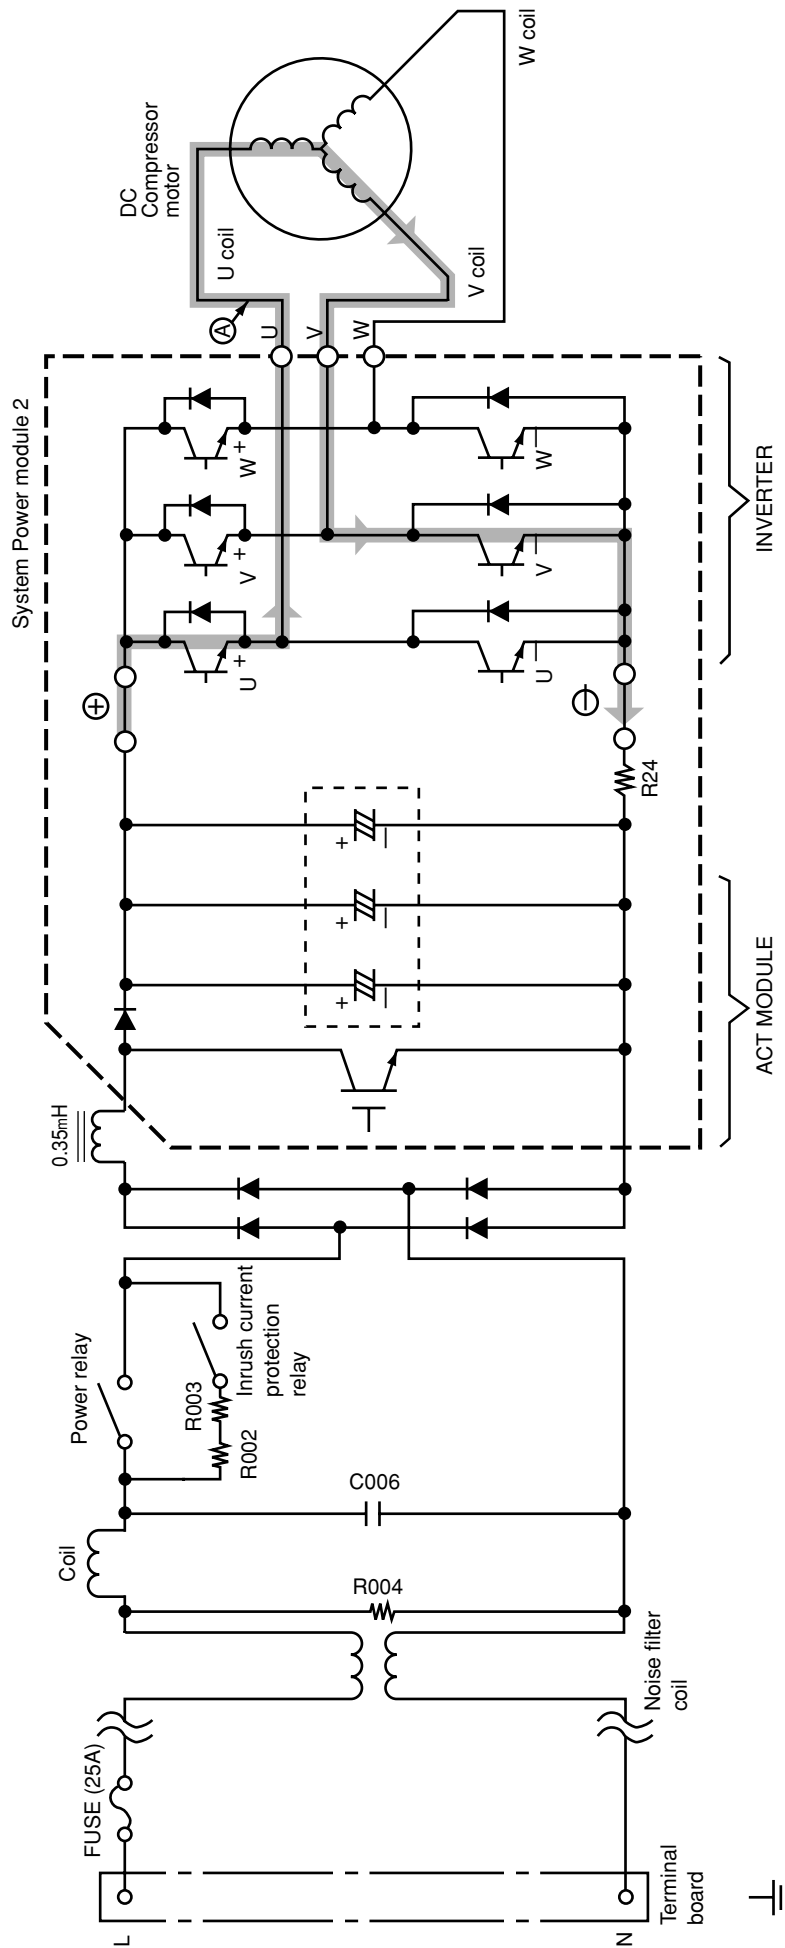
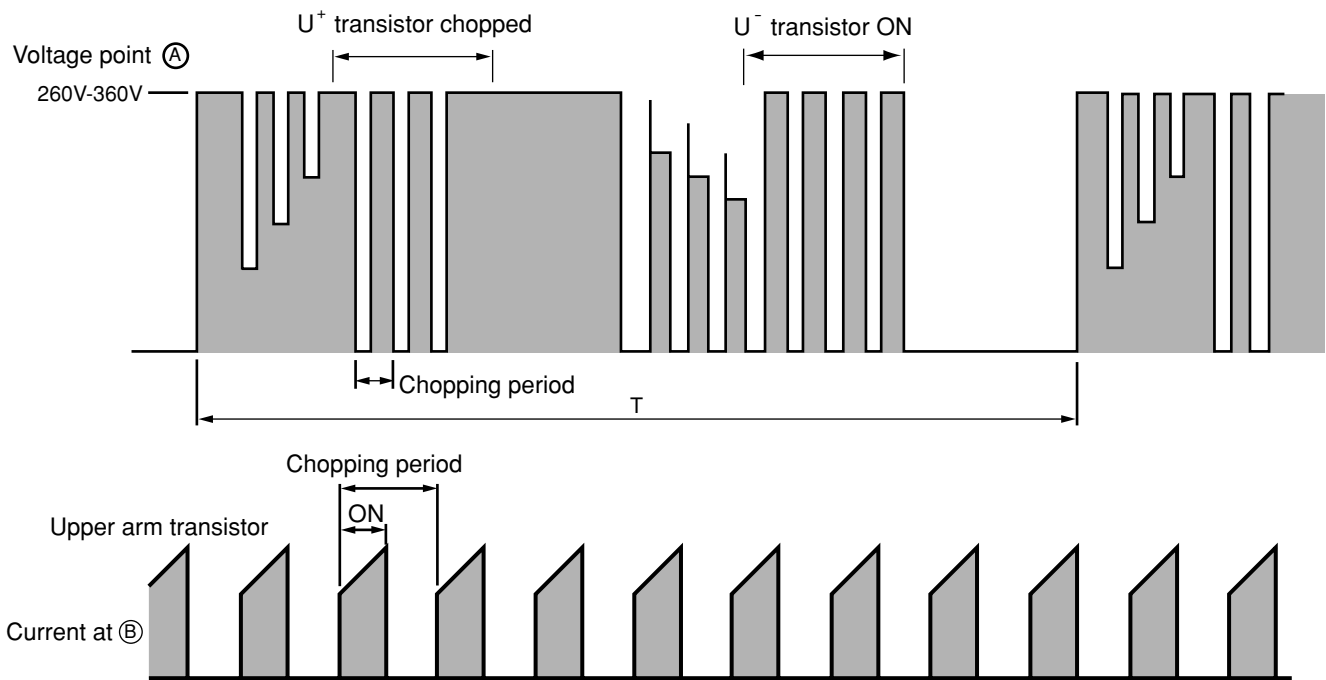

Fig. 3-1 System power module circuit (U+ is ON, V- is ON)
Fig. 3-3 Voltage waveform at each point
- Fig. 3-1 shows the system power module and its peripheral circuit. (Current ACT module and power module are combined into one unit.) The three transistors on the positive ⊕ side are called the upper arm, and the three transistors on the negative ⊖ side, the lower arm.
- Fig. 3-3 shows voltage/current waveform at each point shown in Figs. 3-1 and 3-4. First half of upper arm is chopper, second half is ON, and first half of lower arm is chopper, second half is ON.
- When power is supplied U+ → U-, because of that U+ is chopped, current flows as shown below; (B)
- (1) When U+ transistor is ON: U+ transistor → U coil → V coil → V- transistor → DC current detection resistor → Point (B) (Fig. 3-1)
- Since current flows at point (B) only when  $U^+$  transistor is ON, the current waveform at point (B) becomes intermittent waveform as shown in Fig. 3-3. Since current at point (B) is approximately proportional to the input current of the air conditioner, input current is controlled by using DC current ( $I_d$ ) detection resistor.